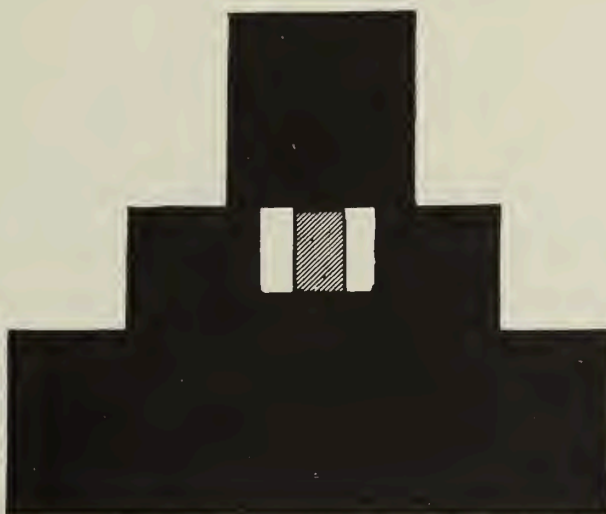

Figure 100. --Correct Sight Picture.
b. Sight Picture. -- With the sights properly aligned, the gunner takes a six o'clock sight picture. The target is centered on the front sight blade with the bottom of the target even with the top of the rear sight slide. (See fig. 100.)